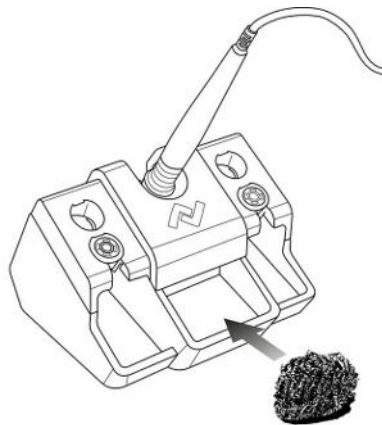

Fig. 7: Properly positioning the soldering iron and dry cleaner
Info: Store the soldering iron only in the central appropriate support, not in the side storage funnels of the soldering tips! (See Fig. 7)
- c) Place the soldering iron in the supporting stand (see Fig. 7). There must be no strain on the connecting cable of the soldering iron.
d) Insert the dry cleaner; Fig. 7 shows the recommended position.